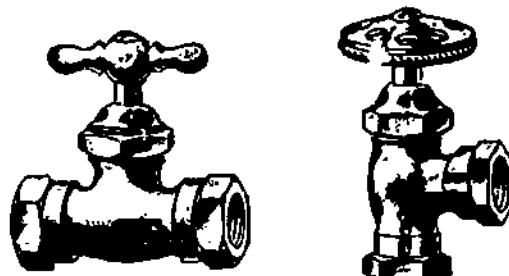

Figure 7-12. Compression Stop
3. It may be a straight stop or an angle stop, as in Figure 7-12, and may be threaded, solder end, or slip-joint compression end.